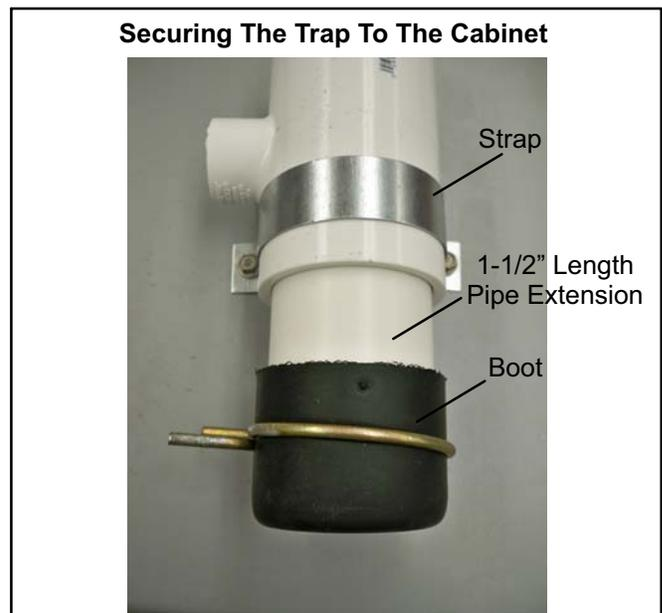

FIGURE 4
- 7 - Use the provided strap and screws to secure the trap to the cabinet. Take care to place the strap around the trap assembly bottom of the tee. DO NOT secure strap around the 1-1/2" long pipe extension, as this may prevent the removal of the boot for cleaning at a later date. See figure 4.